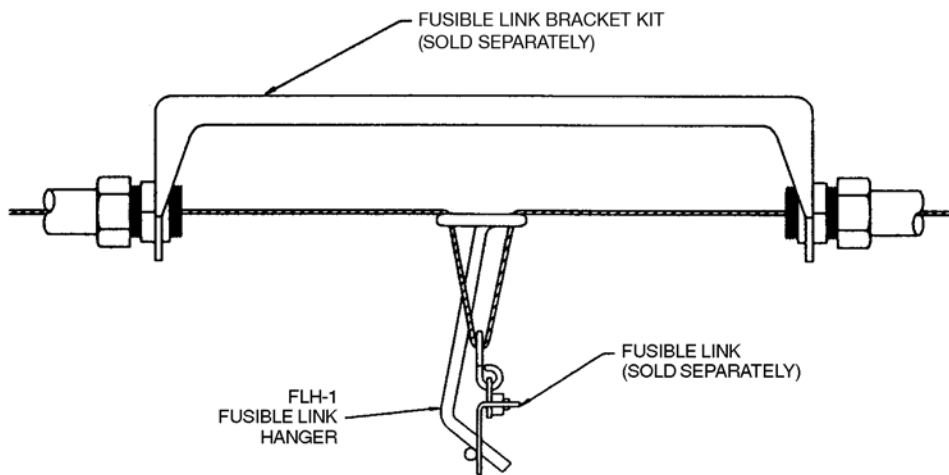

FIGURE 2-14
- ▶ The Model FLH-1 Fusible Link Hanger Assembly (Part No. 550876) is an accessory designed to simplify the installation of fusible links in the fusible link line. It can be used with the Model FLK-1 fusible link kit (kits must be ordered separately). The fusible link hanger makes it possible to install fusible links without cutting and crimping loops in the fusible link line for each link. They are available in packages of 25 (FLH-25) only. See Figure 2-14.